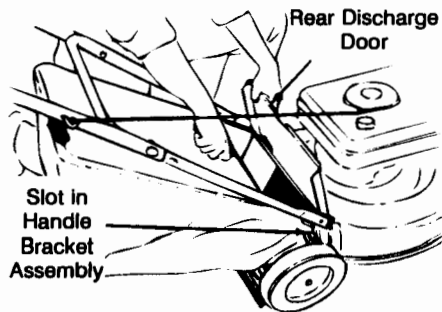

Figure 12
2. Place the hooks on the grass catcher into the slots in the handle bracket assemblies. See figure 12. Release the rear discharge door.